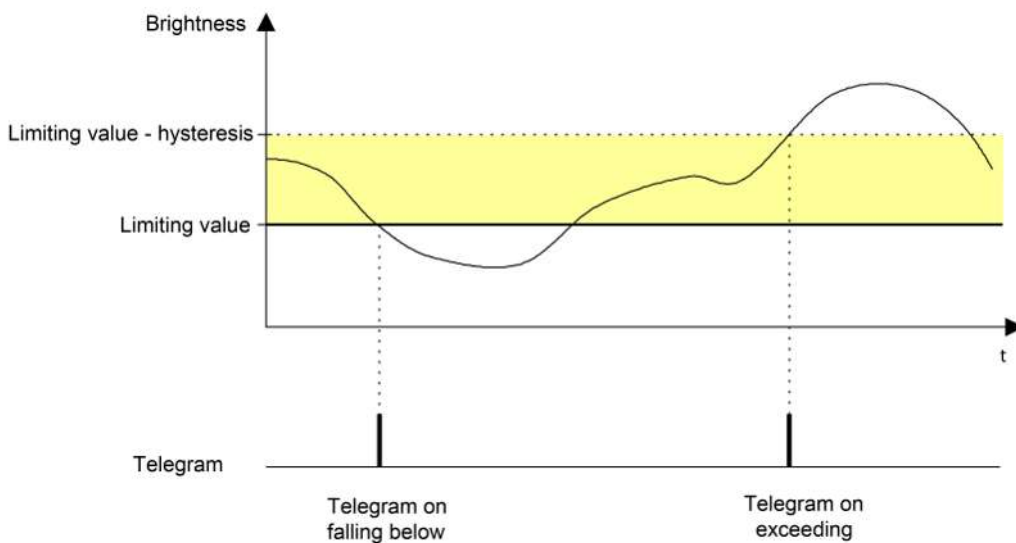

Figure 55: Example 2 of the limit value definition
2. Brightness limit value = lower threshold (see figure 55)